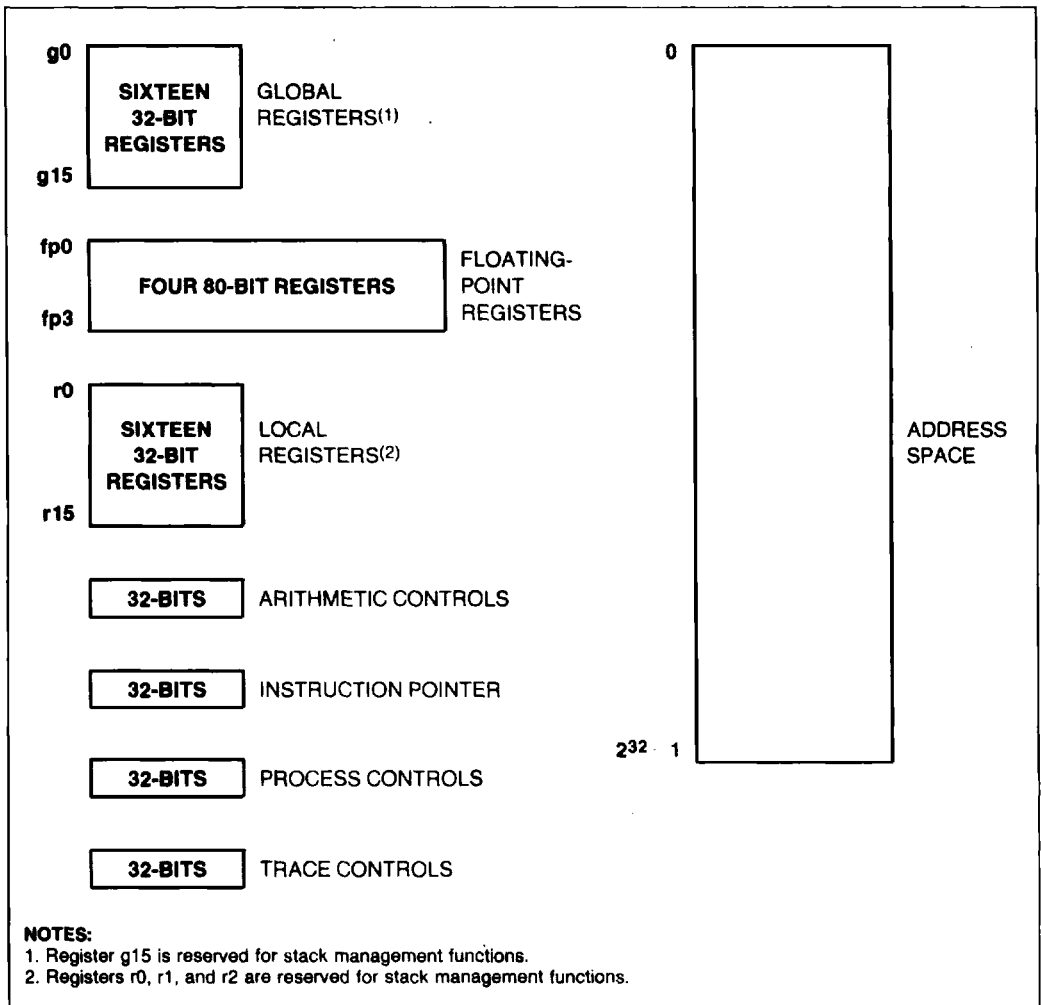

Figure 2. Register Set
1. Large Register Set. Having a large number of registers reduces the number of times that a processor needs to access memory. Modern compilers can take advantage of this feature to optimize execution speed. For maximum flexibility, the 80960MC provides thirty-two 32-bit registers (sixteen local and sixteen global) and four 80-bit floating-point global registers. (See Figure 2.)